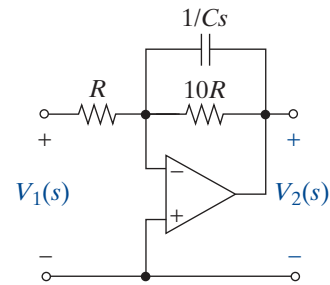

FIGURE P11-6
- 11-6 Find the driving point impedance seen by the voltage source in Figure P11-6 and the voltage transfer function $T_V(s) = V_2(s)/V_1(s)$.